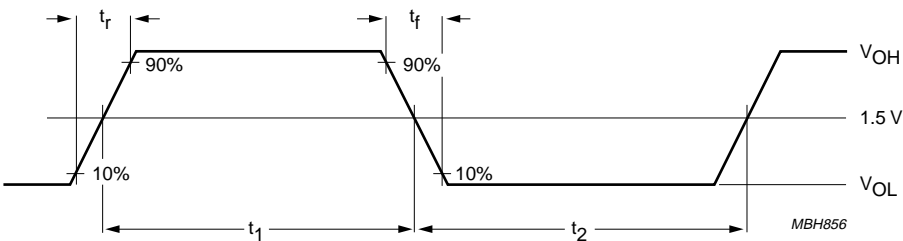

Fig.12 Definition of transition times.
2. The transition time and duty factor definitions are shown in Fig.12; $\delta = \frac{t_1}{t_1 + t_2}$.